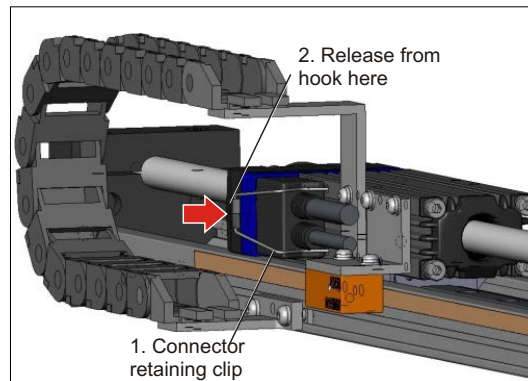
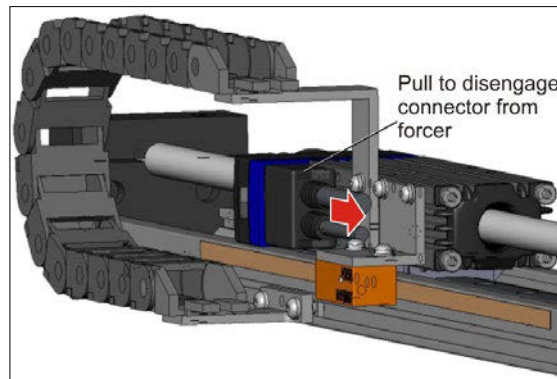

Figure 3.3
Figure 3.4
- Release the D-type connector retaining clip as shown in Figure 3.3 and Figure 3.4
- Plug in the replacement cable 15-way D-type plug into the connector on the forcer and engage the connector retaining clip as shown in Figure 3.3.